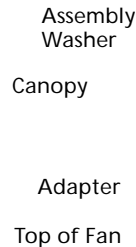

Figure 3b - Placing Canopy and Washer Over Adapter
1. Fit the canopy over the motor hanger adapter as shown in Figure 3b. Make sure the canopy fits snugly against fan assembly with no space between the pieces.
2. Place the large assembly washer included with the fan over the adapter and canopy as shown in Figure 3b.